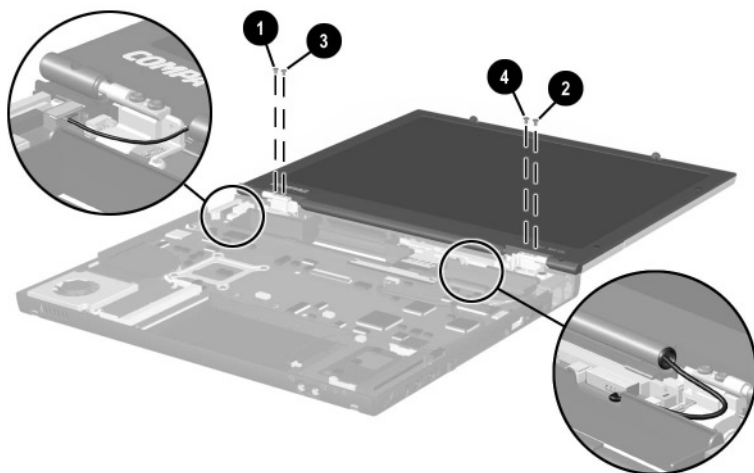

Figure 5-24. Routing the Display Cables and Installing the Display Screws
When replacing the display, make sure the display cables are routed as indicated in Figure 5-24. To ensure proper alignment of the display, loosely install the screws in the ①, ②, ③, ④ sequence indicated. After all four screws have been loosely installed, tighten them.